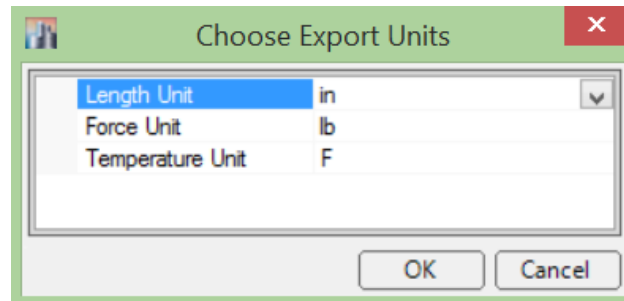

Figure 4 Export Unit Options in ETABS
- In the *Choose Export Units* dialogue box, select the units for *Length*, *Force* and *Temperature* data to be exported from ETABS. For this example, use the default values per US unit selection for the main model as shown in **FIGURE 4**.